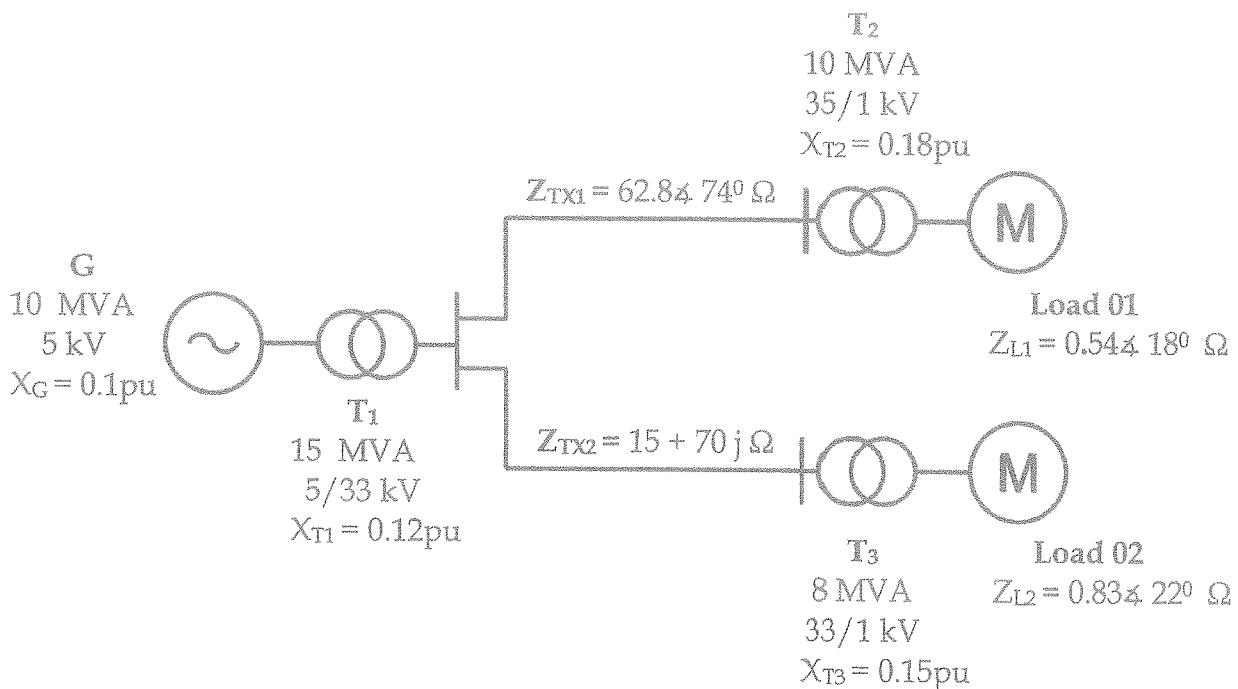

Figure Q1: Single line diagram of the single-phase power system
- b) Single line diagram of a single-phase power system is shown in Figure Q1. T_1 , T_2 and T_3 are transformers, and TX_1 and TX_2 are transmission lines. Take 10 MVA and 5 kV as base values at the generator G.